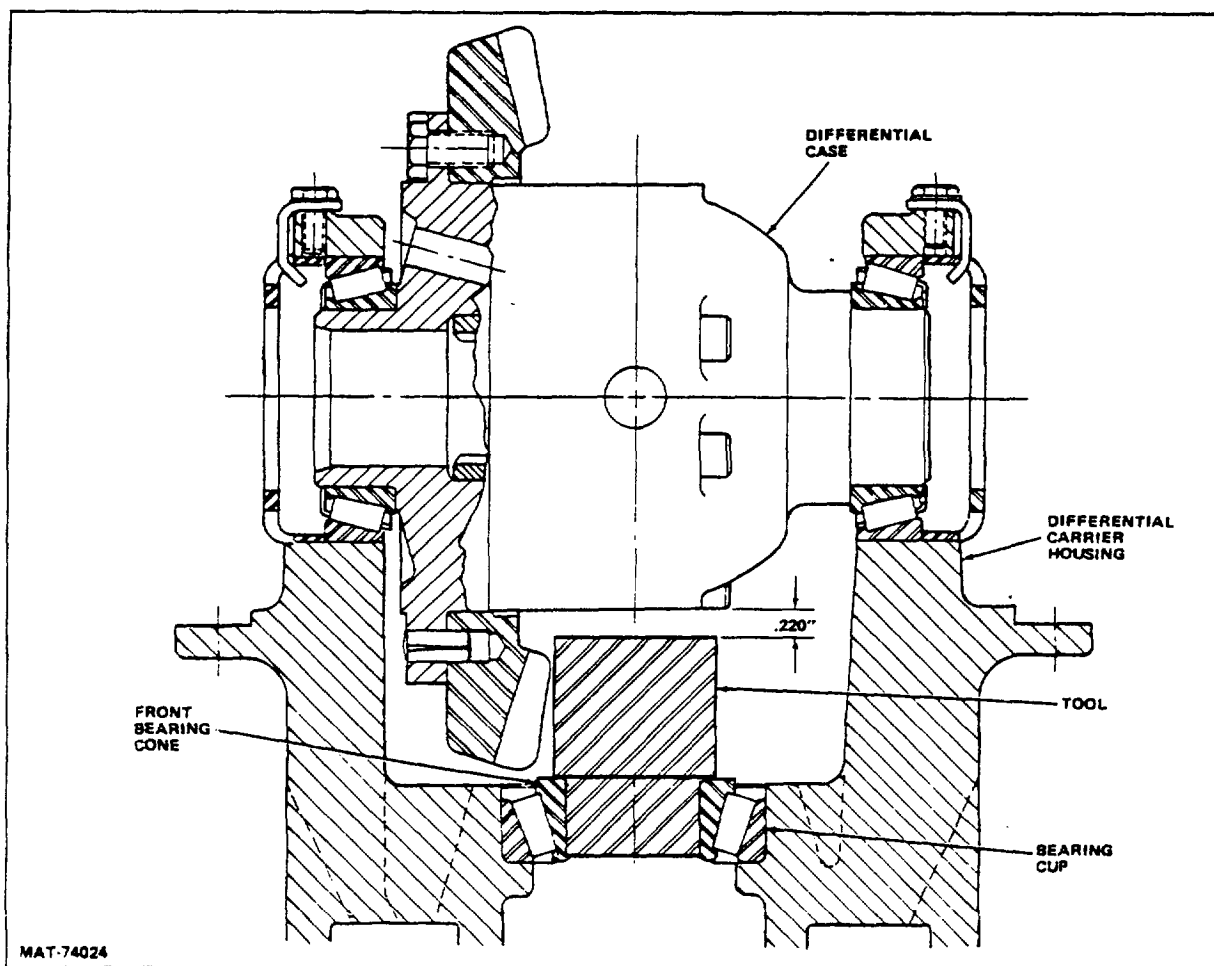

Figure 5-6. Measuring for Shims
4. Measure and record the distance between the 00 of the differential case and the face of the tool (Fig 5-6).